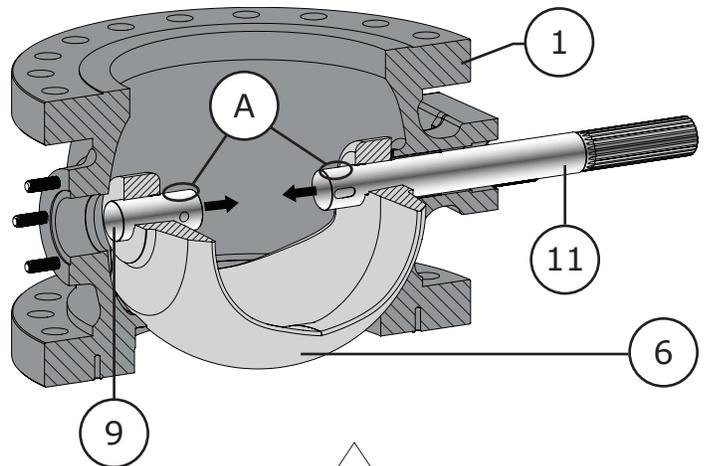

Figure 51 Step 6 - Ball / Shaft Installation
- 5 Install the follower shaft (Key 9) by inserting it through the flange hole of the valve body (Key 1) and push it in to the ear of the ball (Key 6). Refer to Figure 51.
- 6 Depending on how you are supporting the ball, readjustment of your supports may be necessary to allow both shafts (Keys 9 & 11) to be pushed through the ears of the ball towards the center of the ball. Shafts will need to be pushed through the ears of the ball until the pin hole/grooves are clearly visible on the shafts. Refer to Figure 51.